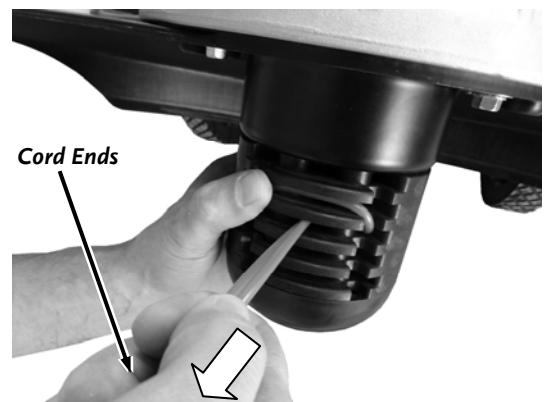

Figure 18
3. Pull the ends of the Cord under the loop and push the loop up into the Line Plate groove above them (**Figure 18**) and then pull the ends tight.